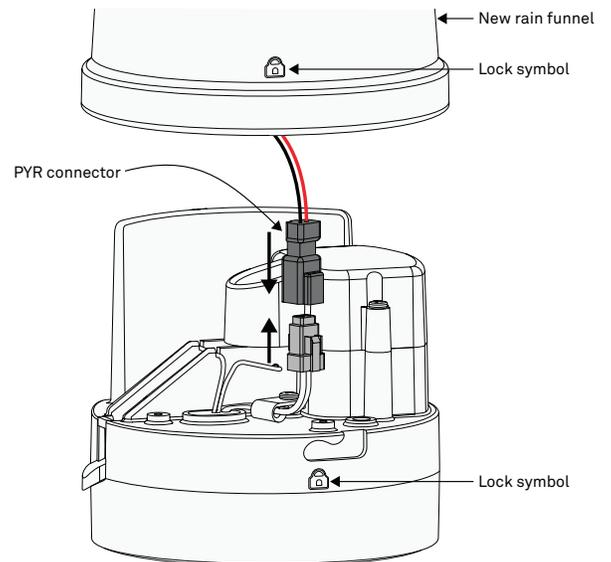

Figure 5 Pyranometer cable connector
9. Connect the new rain funnel pyranometer cable connector to the ATMOS 41 connector (Figure 5).
On newer ATMOS 41 designs, the gray lock symbol on the rain funnel should be lined up with the lock symbol molded into the ATMOS 41 base (Figure 5).